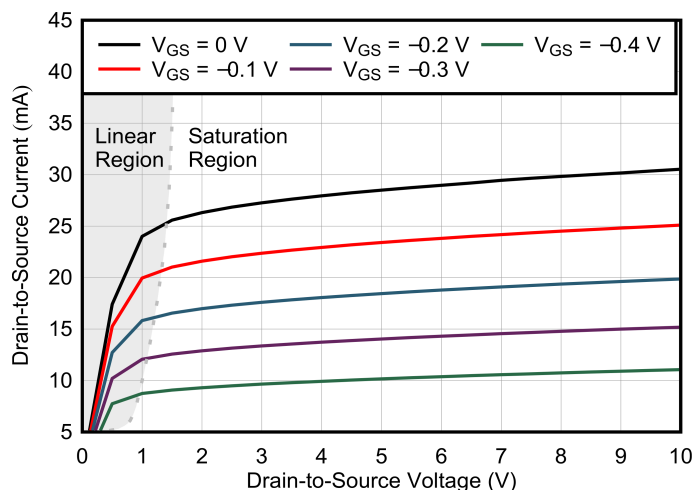

Figure 8-1. V_{DS} vs I_{DS}
- For $V_{GS} > V_{GSC}$: Two modes of operation can exist depending on V_{DS} . When V_{DS} is less than the linear (saturation) region threshold (see Figure 8-1), the device operates in the linear region, meaning that the device behaves as a resistor connected from drain-to-source with minimal variation from any changes in V_{GS} . When V_{DS} is greater than the linear (saturation) region threshold, I_{DS} has a strong dependance on V_{GS} , where the relationship is described by the parameter gm.